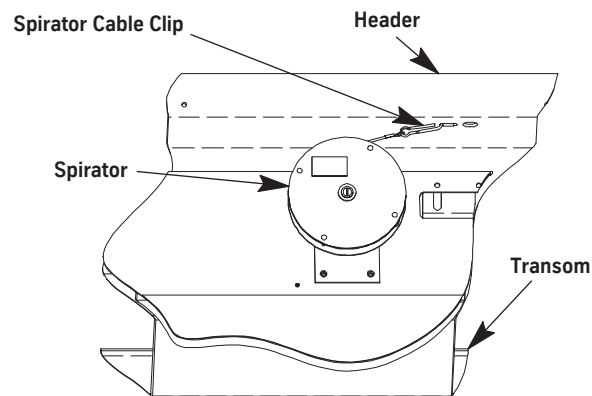

Figure 18 - Spirator
2. Use the spirator cable clip to attach the cable to the header. See Figure 18.